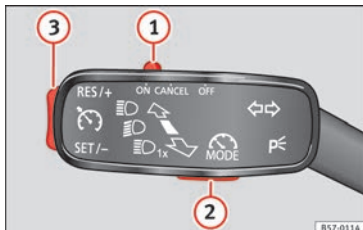

Fig. 175 On the left of the steering column: control and buttons to operate the speed limiter.
If you wish to temporarily switch off the speed limiter, e.g. to overtake, move control » Fig. 175 ① of the turn signal lever into position **CANCEL** or the third lever into pressure point **CANCEL** or press button ② on any lever.